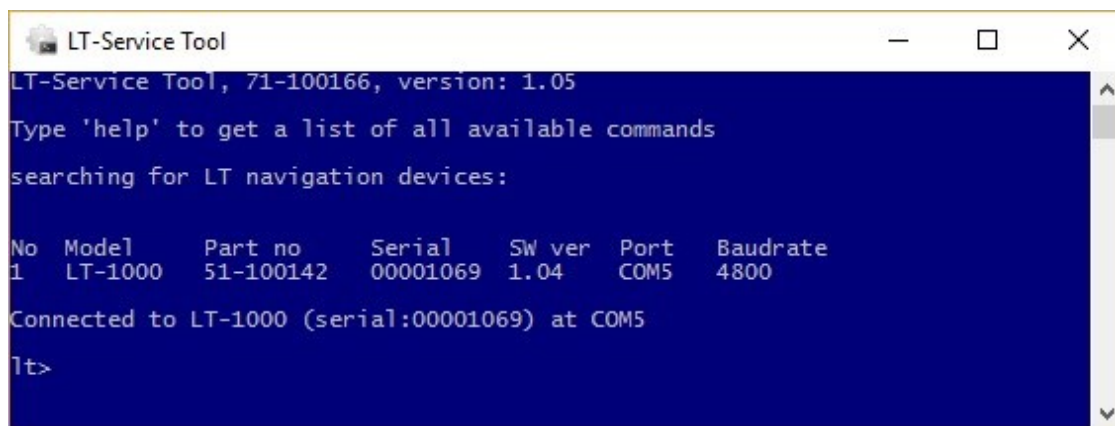

FIGURE 46: THE LT-SERVICE TOOL WILL AUTOMATICALLY SEARCH FOR LT-NAVIGATION DEVICES, WHICH ARE CONNECTED TO THE PC. A MANUAL CONNECTION MODE IS ALSO AVAILABLE.
- Step 2: The LT-Service Tool will automatically search all COM ports on the PC to identify potential LT-Navigation devices connected to the PC. Devices found, will be shown in a list, as illustrated in Figure 46.